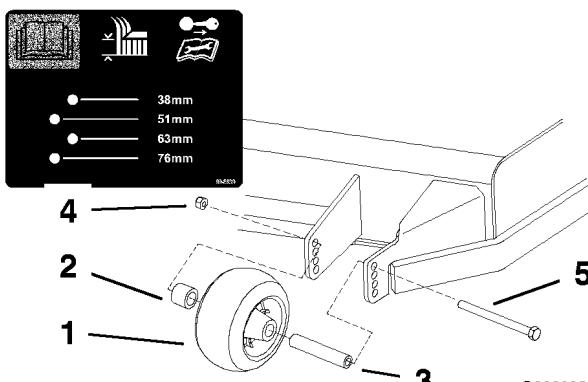
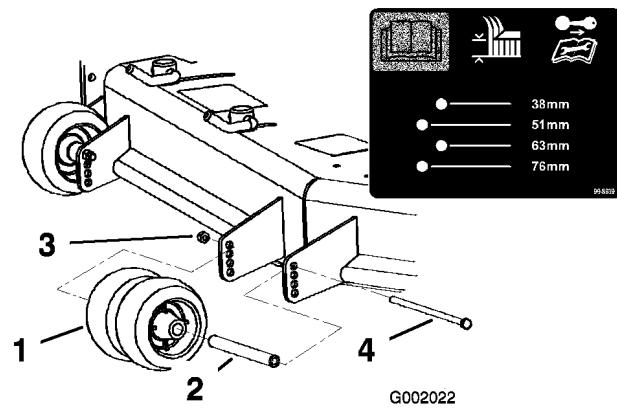
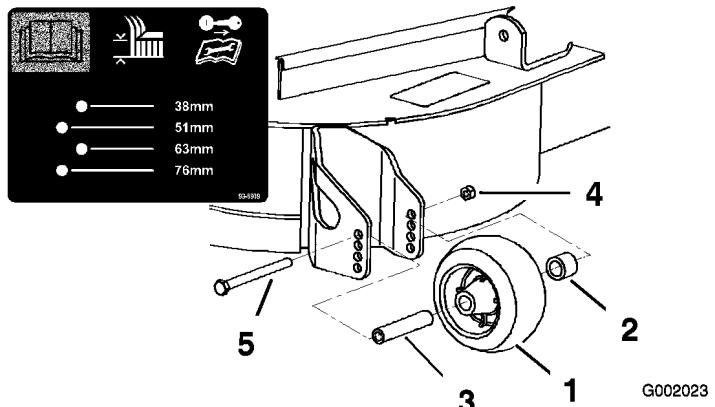

Figure 20
Figure 21
Figure 22
3. After adjusting the height-of-cut, adjust the rollers by removing the flange nut, bushing, spacer, and bolt (Figure 20 , Figure 21 and Figure 22).
Note: The two middle rollers will not have a spacer (Figure 21).
5. Install the flange nut bushing, spacer, and bolt. Torque to 40-45 ft-lb (54-61 N•m) (Figure 20 , Figure 21 and Figure 22).